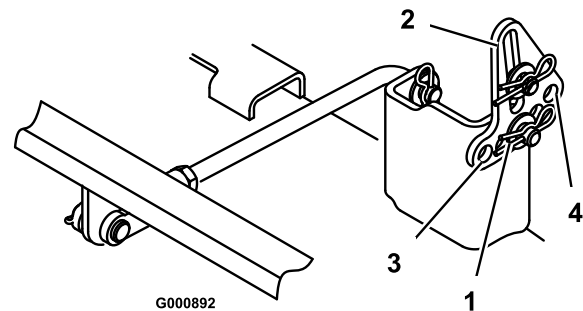

Figure 42
5. Remove the hairpin cotter and washer from the leveling bracket (Figure 42). To level the blade(s), reposition the leveling bracket(s) in a different hole and install the washer and hairpin cotter. (Figure 42). A front hole lowers the blade height and a rear hole raises its height. Adjust both sides as required.